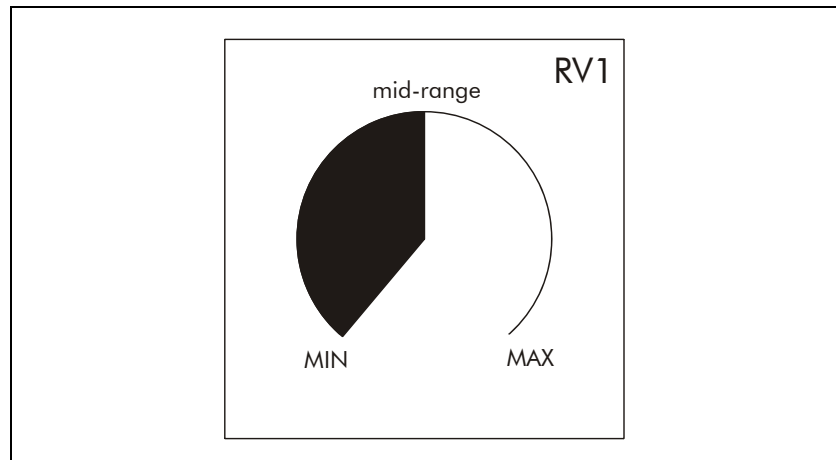

Figure 3-1 Sensitivity Pot adjustment
4. If it is necessary to increase the Microwave's sensitivity, turn the Sensitivity Pot (RV1) clockwise. To decrease the sensitivity, turn the Pot counter-clockwise (see Figure 3-1).